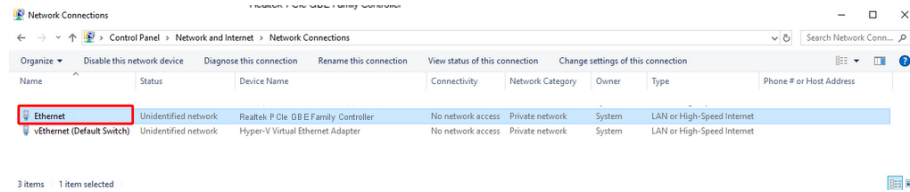

Figure A.4: Selecting the adapter
Step 4 Double-click on "Ethernet" (Figure A.4).